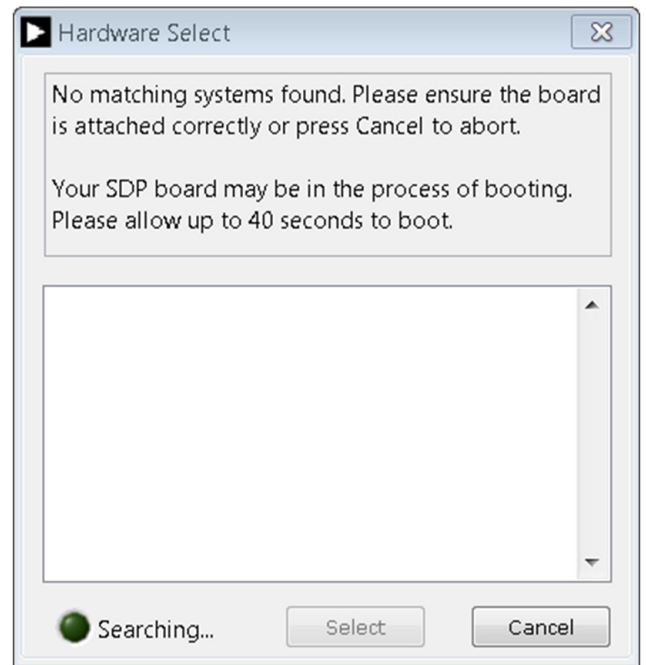
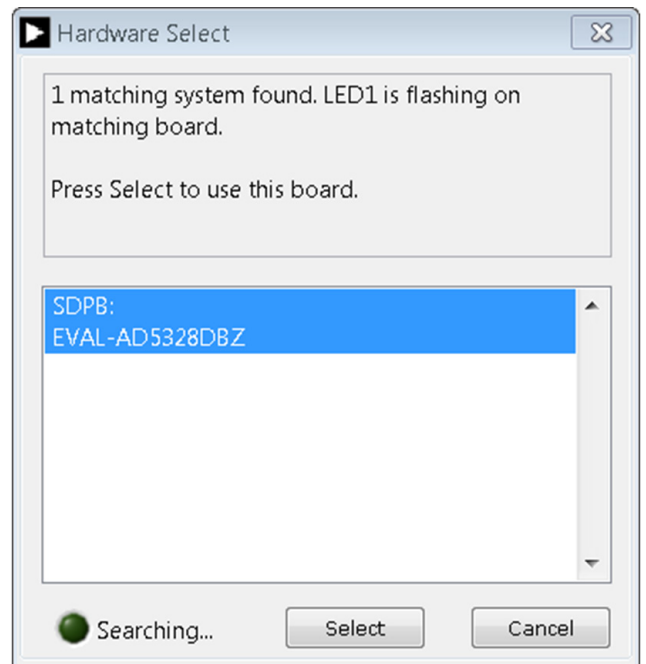

Figure 2. Connectivity Error
Figure 3. Hardware Select
4. If the SDP-B board is not connected to the USB port when the software is launched, a connectivity error displays (see Figure 2). Connect the evaluation board to the USB port of the PC and wait a few seconds. When the SDP-B board is detected, the display is updated (see Figure 3).